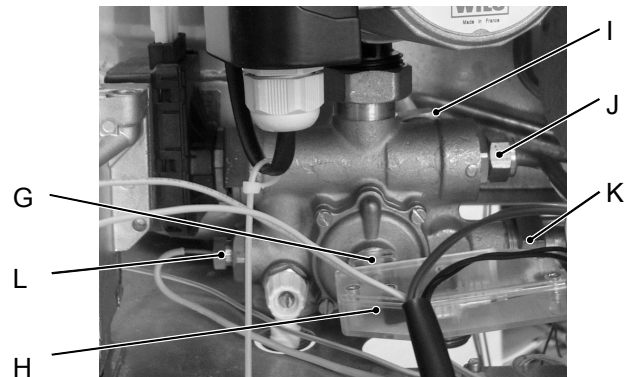

Figure 7
- 4) Remove the fixing spring G and remove the primary circuit flow switch H (Figure 7).
- 6) Unscrew the connections I,J,K,L (Figure 7).